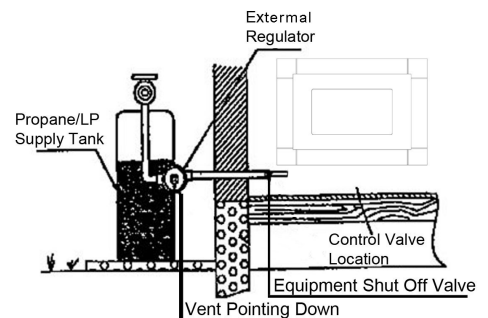

Figure 11
4. Check all joints from equipment shutoff valve to control valve (Figure 11). Apply mixture of liquid soap and water to gas joints. Bubbles forming show a leak.
3. Check all joints from gas meter to equipment shutoff valve (see Figure 11). Apply mixture of liquid soap and water to gas joints. Bubbles forming show a leak.